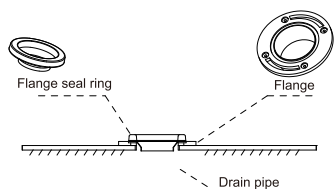

Figure 1
- ① Place the flange on the sewage outfall, and make a good seal. (See figure 1)